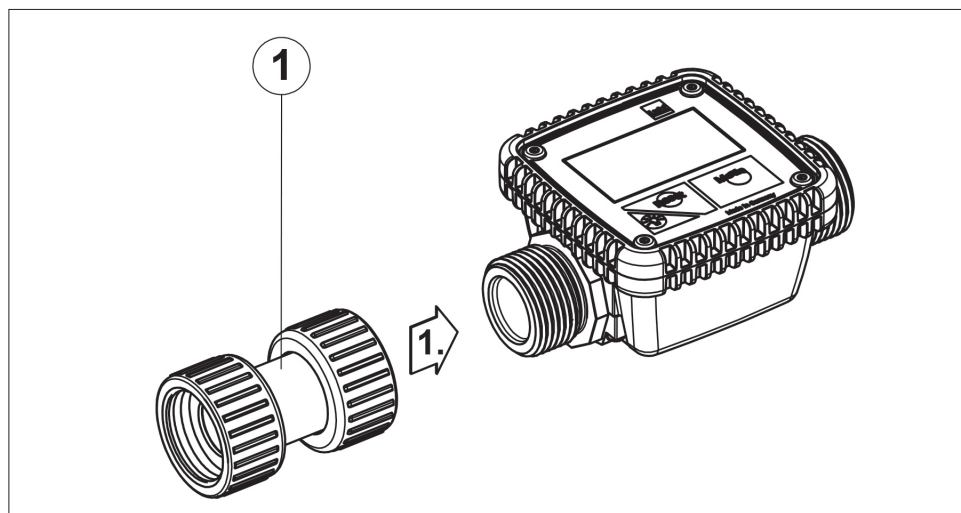

Fig. 2
1. Screw the drum pump connector G1 (1) at the inlet of the flow meter (→ Fig. 2).